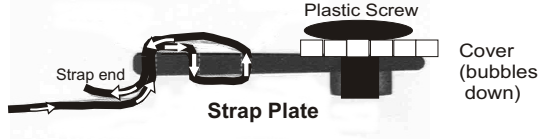
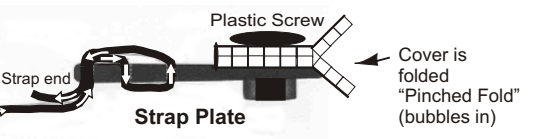

Fig. 10
Fig. 11
C. Choose EITHER Fig. 10 OR Fig. 11 based on your pool shape.
For Reel Systems Placed at Pool End (Rectangular Pools) (Fig.10)
For Reel Systems placed across widest point of Pool (Round, Oval or Irregularly Shaped Pools) (Fig. 11)